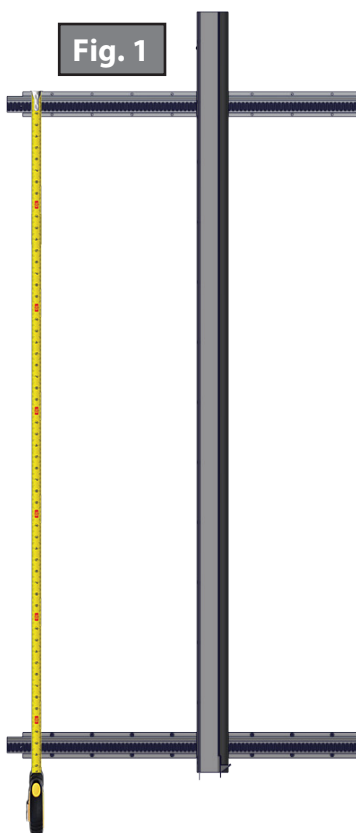

Fig. 1
5. It is recommended that measurements be taken to make sure the slide-out is parallel and that the H-Column is square. Make sure the measurements are taken from the same location on both sides (Figs. 1 and 2). Variance could be up to $\pm 1/8"$.